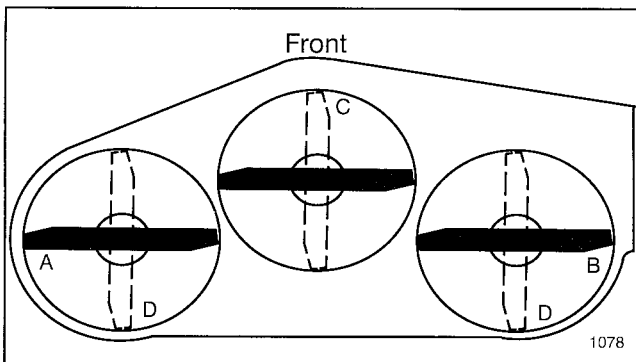
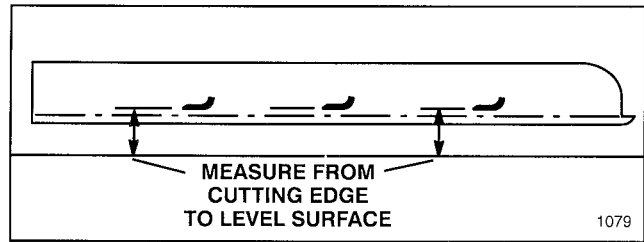

Figure 15
Figure 16
1. Position blade(s) front-to-rear (Fig. 15). Measure at "C" and "D" locations (Fig. 15), from level surface to the cutting edge of blade(s) (Fig. 16).
1. Position blade(s) side-to-side (Fig. 15). Measure at "A" and "B" locations (Fig. 15), from level surface to the cutting edge of blade(s) (Fig. 16).